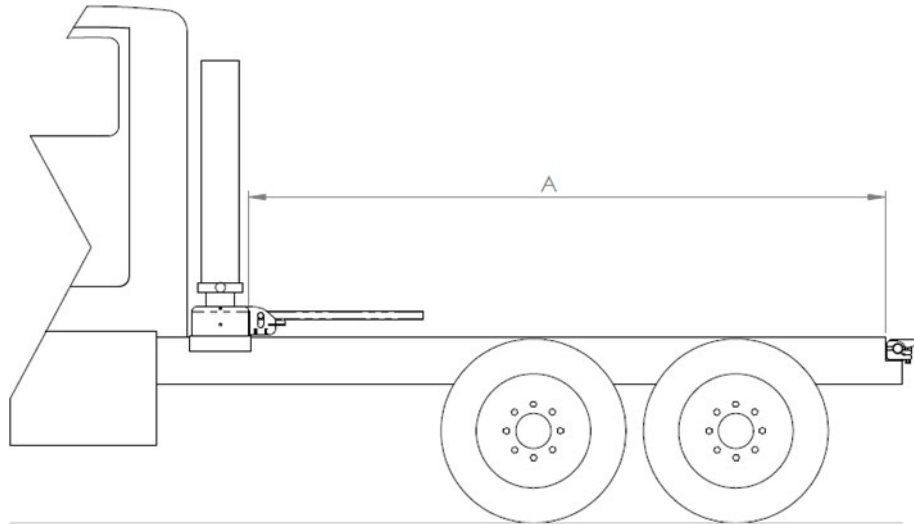

Figure 9 – Frame measure
Measure the distance (A) starting at the back of the cylinder base until the cut made on the frame for the hinges. See fig. 9.